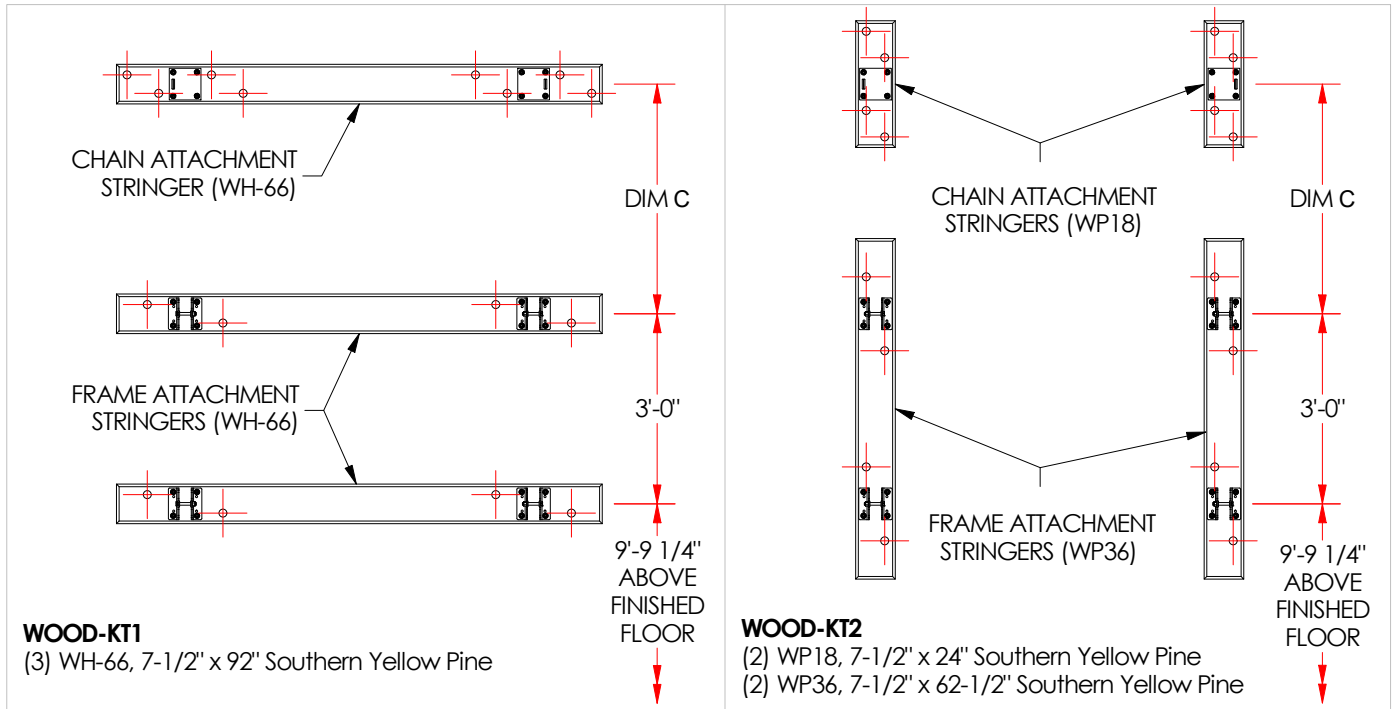

Figure 1: Common Wood Attachment Kits
1. Each wall mounted backstop is supplied with a wood stringer kit. Determine which kit was supplied with your backstop to determine the necessary installation requirements. Figure 1 illustrates the two most common stringer kits, WOOD-KT1 for horizontal stringers and WOOD-KT2 for vertical stringers. Custom kits may contain a combination of both kits. For simplicity, this installation manual illustrates WOOD-KT1.
- Chain attachments are mounted either to 24" long stringers (WP-18), or 92" stringers (WH-66). The chain attachments are critical and see the majority of the loading. For 24" long chain attachment stringers, (4) four anchors are required per stringer. For 96" long chain attachment stringers, (8) eight anchors are required per stringer.
- Frame attachments are mounted to either 64-1/2" long stringers (WP-36), or 92" stringers (WH-66). The length of the stringer is dependent on the orientation, either vertical or horizontal. For either stringer, a minimum of (4) four anchors is required per stringer.
- Stagger the anchors from side to side to obtain optimal attachments and to protect against splitting the stringers. Exact anchor locations cannot be predetermined and is dependent on the wall structure. As a guideline, locate the holes approximately 2" inward from the closest side of the stringer. Use a repeated pattern throughout and locate the anchors close to the attachment fittings. Refer to Figure 1 as an example for anchor locations.